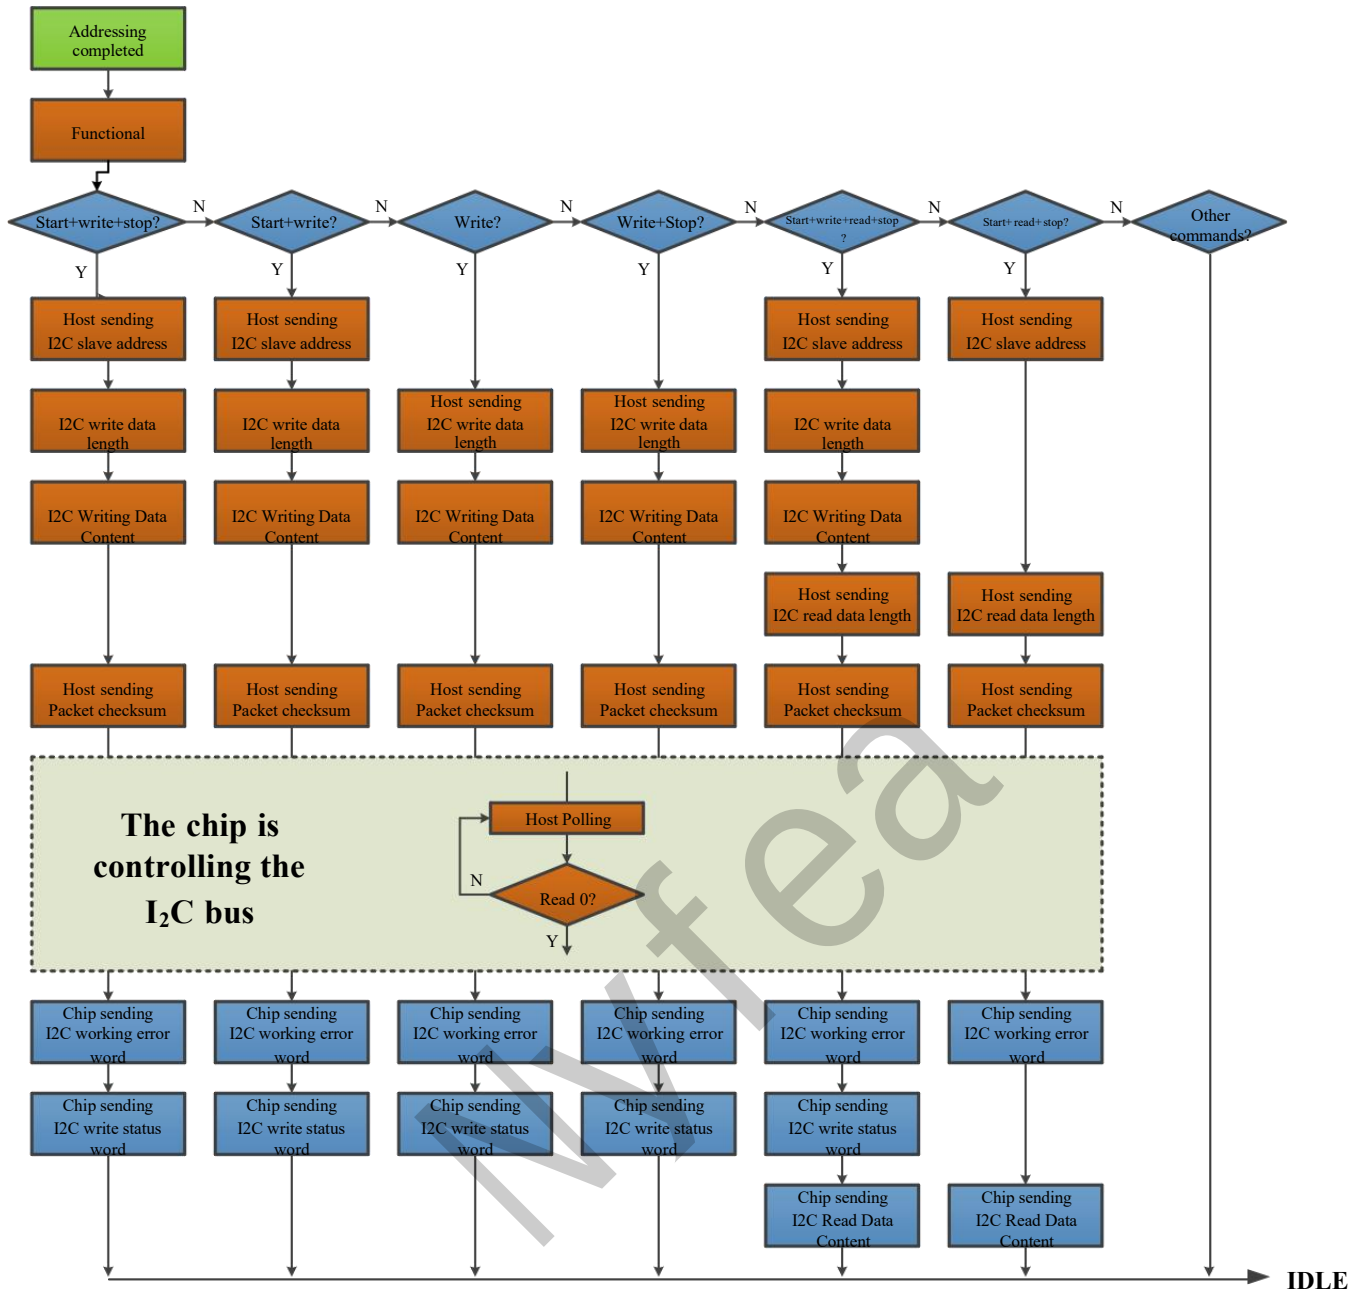

Figure 9 – Function Commands Flow
Once addressed, the FW28E17Q can receive and execute subsequent function commands. The device supports six types of I²C control commands, as shown in Figure 9. These commands, along with their associated parameters—including the I²C slave address, write data length, write data payload, read data length, and checksum—together form a 1-Wire data packet. The write/read data length field specifies the number of bytes to be written or read, and can range from 1 to 255. If this length is set to 0, the Error Detection (ED) pin is asserted and the FW28E17Q enters an idle state.